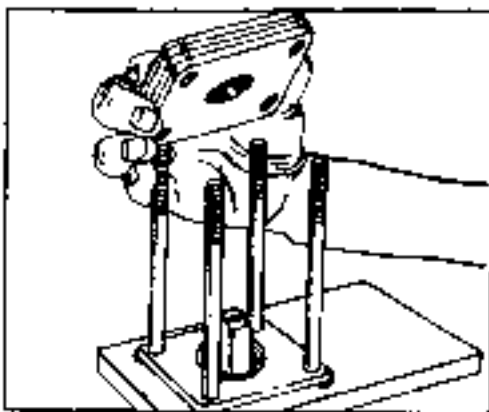

FIGURE 34.
remove and inspect upper cover plate 42. Remove the upper cover plate (32) (four plates bonded together). Inspect the upper cover plate. You should notice some polishing due to the action of the seal. The plate should be free of brinelling (dents) or spalling (flaking). If it is damaged, the upper cover plate must be replaced. See figure 34.